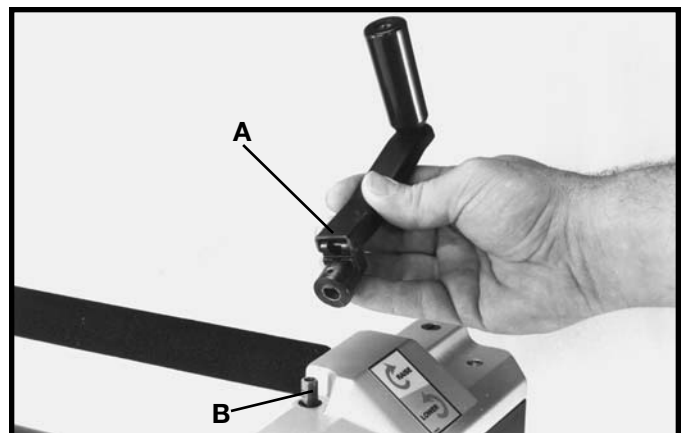

Fig. 7
1. Assemble the cutterhead raising and lowering handle (A) Fig. 7, to shaft (B), making certain flat on shaft is engaged with flat in handle.